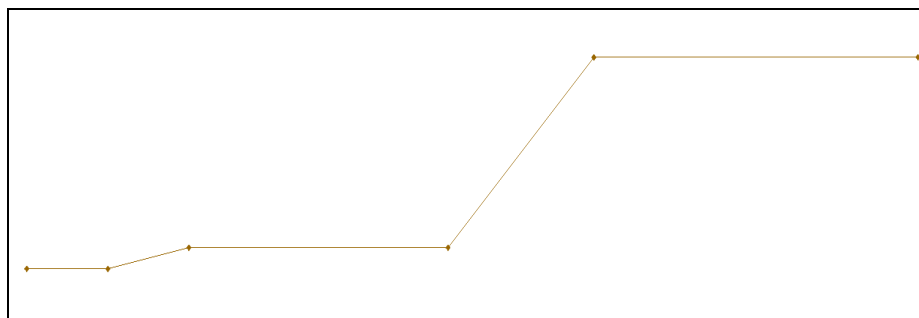

Figure 3. The slope geometry arcs.
3. Using Figure 3 (below) as a guide, click on the points to connect them with arcs to create the slope.
At this point you should see something like Figure 3 below.